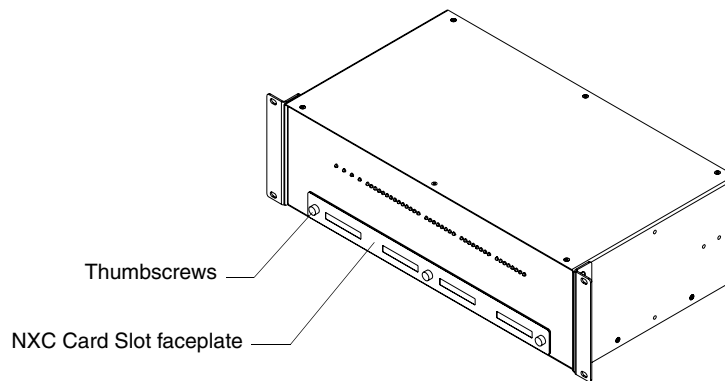

FIG. 7 NI-4100 front faceplate
2. Remove the three screws by turning them in a counter-clockwise direction and then remove the faceplate (FIG. 7).
3. Remove the faceplate from the front plate (FIG. 7 on page 17).